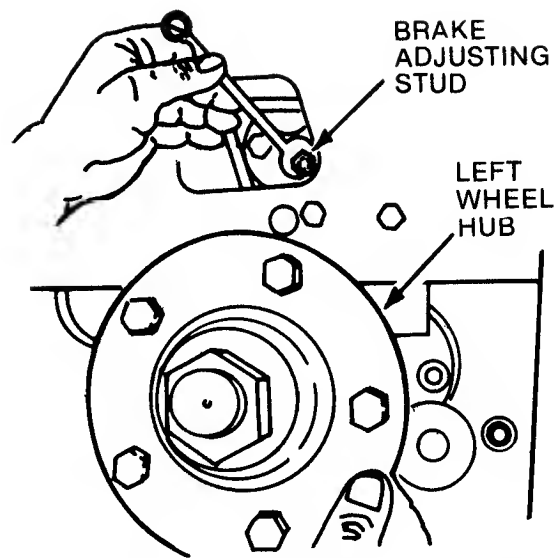

FIG. 4.29-BRAKE PUCK ADJUSTMENT
3. Tighten nut no. 1 Fig. 4.29 to eliminate clearance between brake pucks and disc then back off one-half turn. This provides approximately .020" running clearance for brake disc.